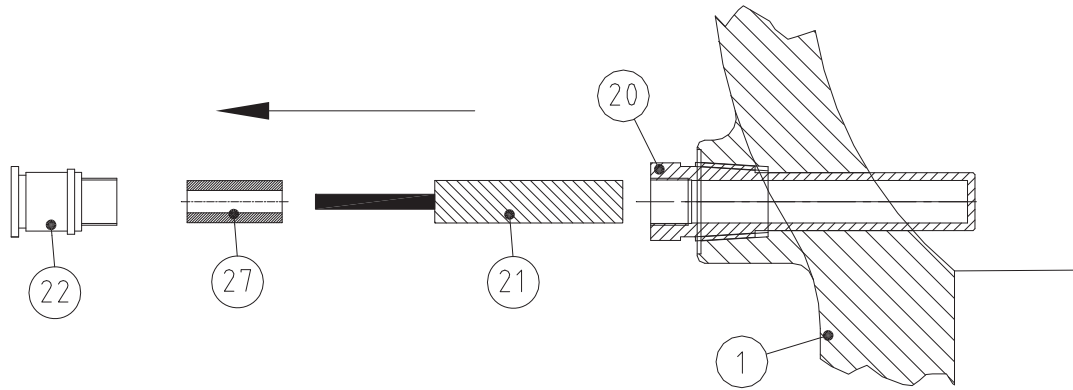

FIGURE 3A
The switch (21) may be checked or replaced without removing the switch housing (20) from the valve (1). This will eliminate the need for draining the valve prior to disassembly. Simply unscrew the cable gland (22), whilst preventing the switch housing (20) from moving. The switch spacer (27) and switch (21) may then be removed for inspection. See Figure 3A.